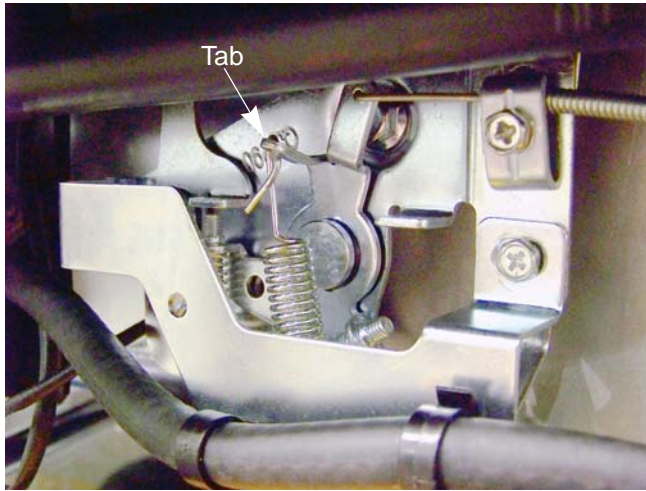

Figure 4.15
4. Bend the tab, that the governor spring is attached to, as needed to adjust the engine speed to 3,300 RPM \pm 100. See Figure 4.15.